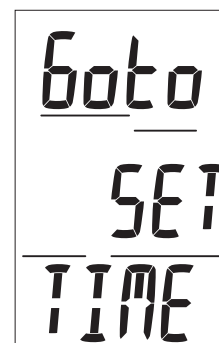

Fig. 36 - Set TIME LEAD-IN
**Set Time Lead-in**, information includes (Fig. 36):